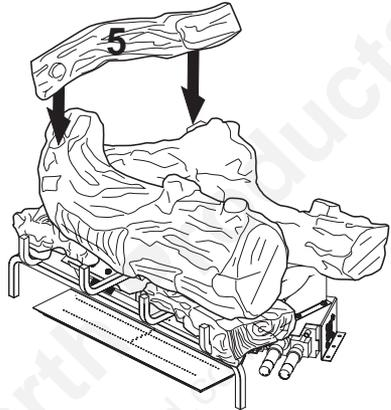

Figure 31 - Installing Log #5
5. Place top left log (#5) onto rear log (#1) and front log (#3). Match square peg on bottom of log #5 with square hole on log #3 and round hole in log #5 with square peg on log #1 (see Figure 31).
in front log (#3) and square hole in log #5 with square peg on log #1 (see Figure 31).